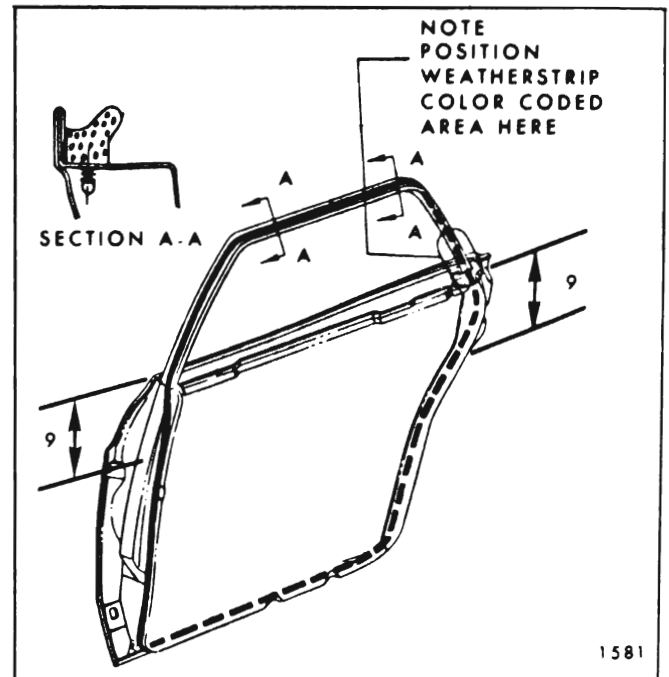

Fig. 6-5 - Rear Door Weatherstrip
- b. On rear doors, color coded section should begin at beltline of door lock pillar and extend upward (Fig. 6-5).
- b. On sedan rear doors, 9" down both door lock pillar and door hinge pillars starting at beltline (Fig. 6-5).